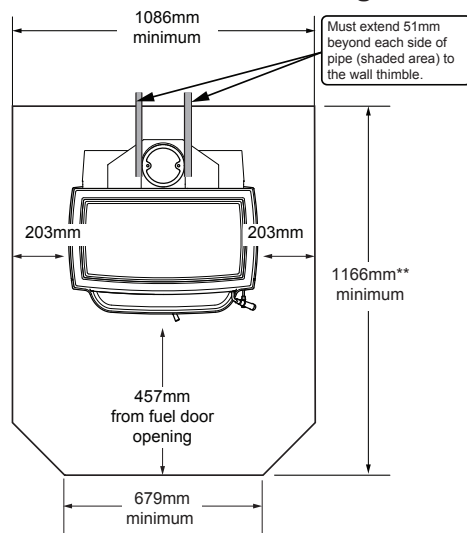

Figure 9.2
In Canada (Figure 9.2), similar floor protection must be provided 18 inches (457mm) in front and 8 inches (203mm) from the sides and rear of the appliance unless reduced by the **Clearance to Combustibles** on page 10.
***EXCEPTION:** Non-combustible floor protections must extend beneath the flue pipe when installed with horizontal venting and extend 2 inches (51mm) beyond each side; **See Figure 9.2.**